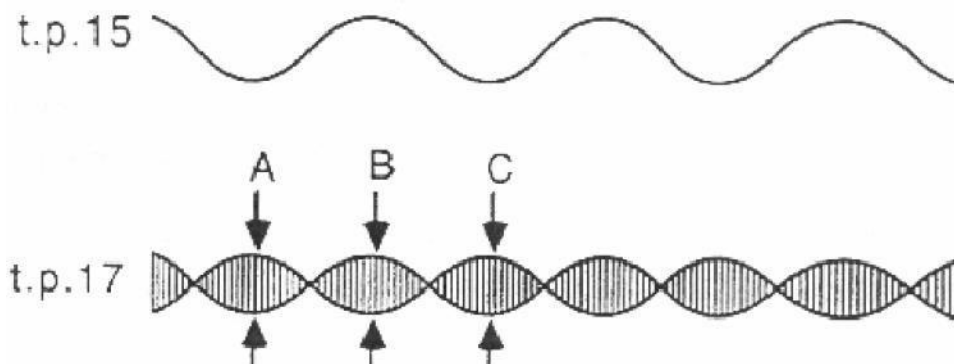

Figure 2: Modulating and Modulated Signal waveforms
5. Next, examine the output of the balanced modulator block (at t.p.17), together with the modulating signal at t.p.15 trigger the oscilloscope on the modulating signal. Check that the waveforms are as shown Fig. 2.